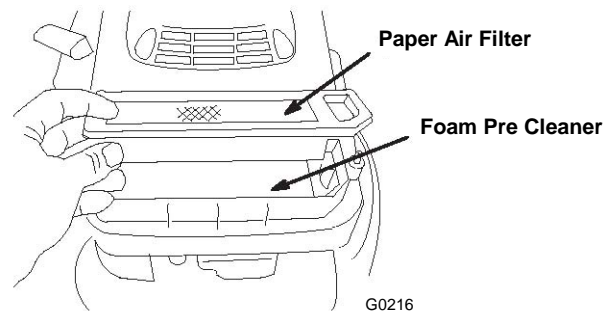

Figure 22
5. Remove the paper air filter and discard it as required (Fig. 22)